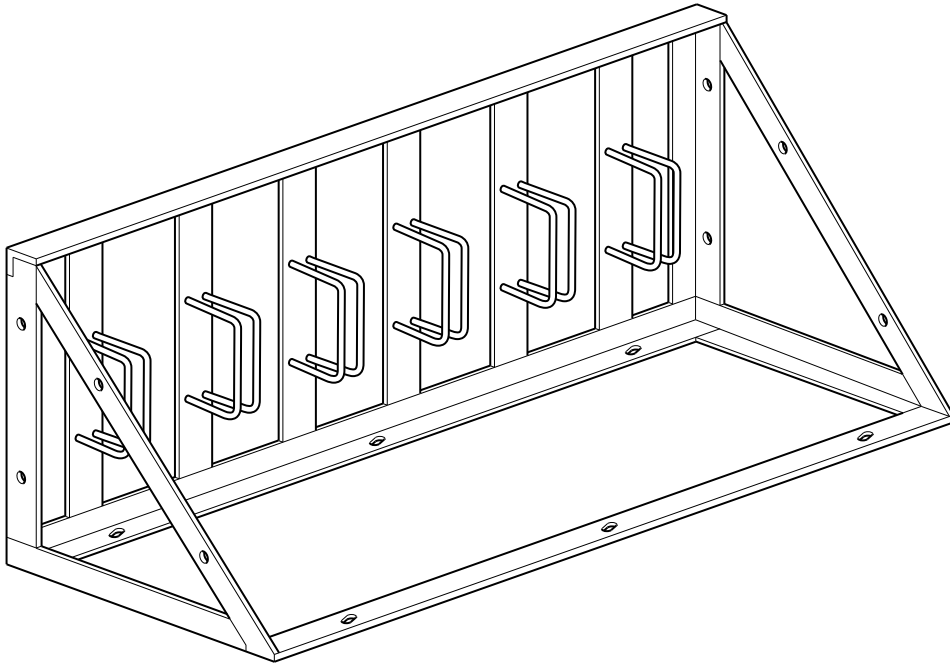
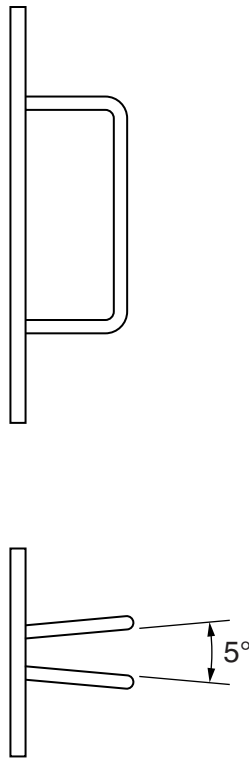

Fig. 2
Fig. 3
Fig. 2 shows one section of a cycle rack.
(a) Give **four** justified design requirements for a cycle rack section of the type shown in Fig. 2.
(e) Fig. 3 shows two views of a wheel support from the cycle rack shown in Fig. 2.
(i) State a **suitable specific material** for the wheel support shown in Fig. 3. Give **two** properties or characteristics that make the material suitable for this use.
- (ii)** Describe, in detail, how the wheel support shown in Fig. 3 would be manufactured as a batch of 150.